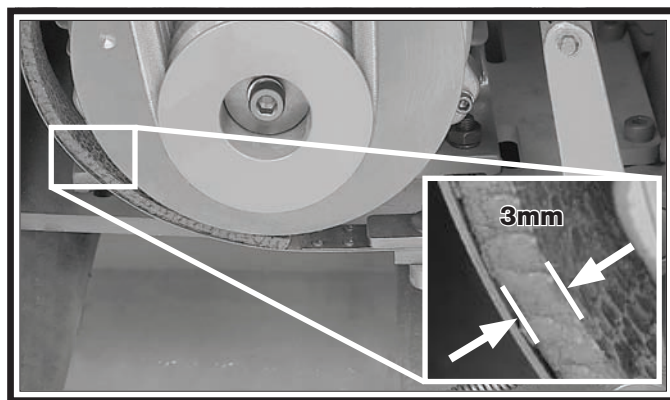

Figure 138. Minimum brake band lining thickness.
4. Measure the remaining brake band lining at the thinnest point, which is usually at the 8 o'clock position, as shown in **Figure 138**.